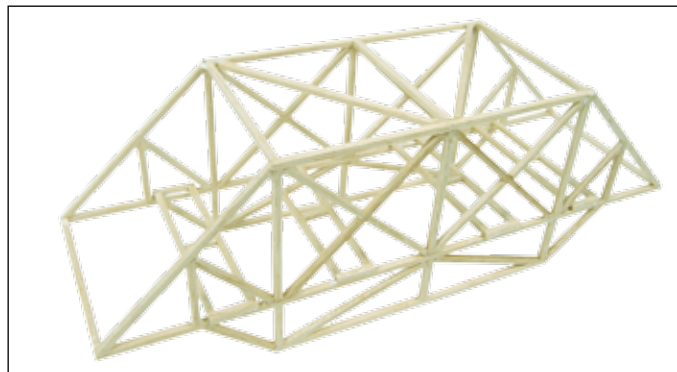

Figure 28 – A completed bridge
- Remove the clamps, if used. Check all joints to ensure they are well glued and that all members are securely in place. The bridge you designed and engineered is now a model bridge (Figure 28).